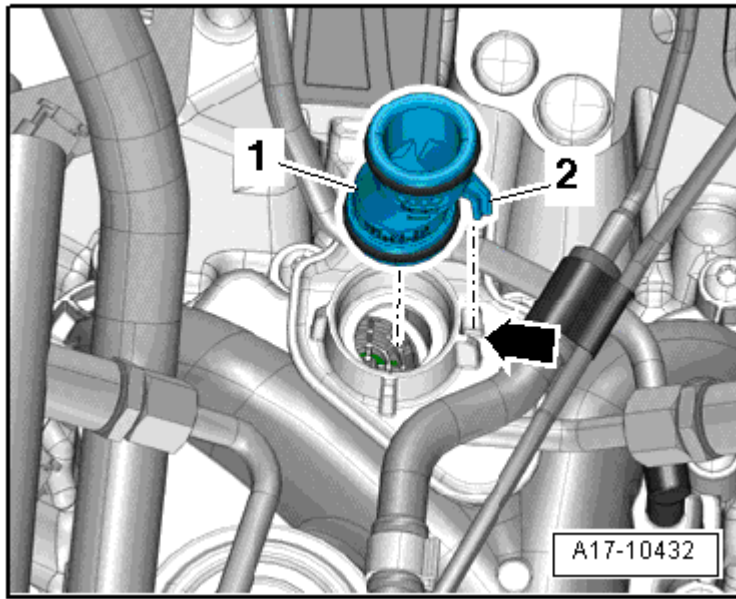

Fig. 2: Identifying Installation Of Crankcase Ventilation Connector
- Installed position, refer to **Fig. 2**